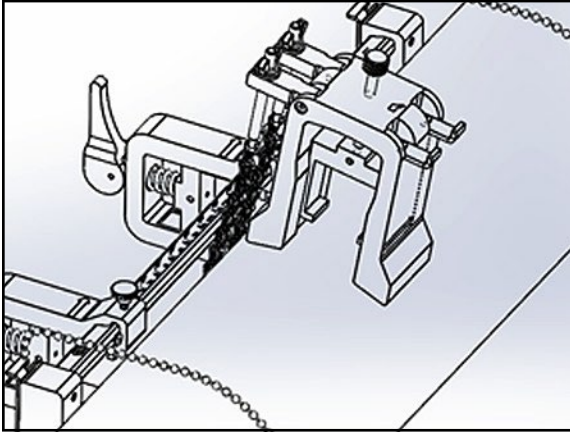

Figure 26: Yoke Placement On Top of Pipe
2. Place the yoke on the top of the pipe (see Figure 26 below). If the required transducer spacing is < 305 mm/12 in., the yoke chain must be placed within the clamping fixture as shown.